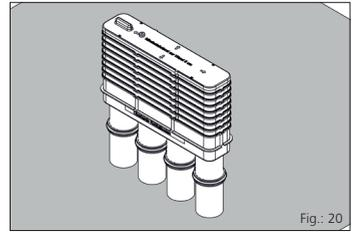

Fig.: 20
- ▶ Positioned and stable MSH Basic-FUBO-E-SR4 mounted vertically, aligned with the batter board and filled with sand (see Fig.: 20).